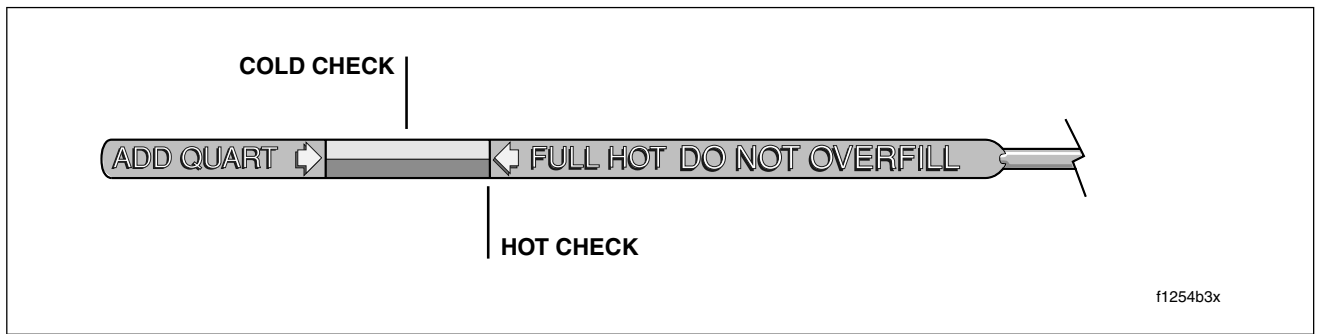

Figure 3-19. Engine Oil Dipstick
- Remove the dipstick and note the level of the oil. Oil level should register between the two arrows on the dipstick. See Figure 3-19. If oil level is at or below the lower arrow, add only enough oil to bring the level between the two arrows on the dipstick.
- Remove the dipstick and note the level of the oil. Add only enough oil to bring the level to the FULL mark on the dipstick. See Figure 3-19. Do not overfill.